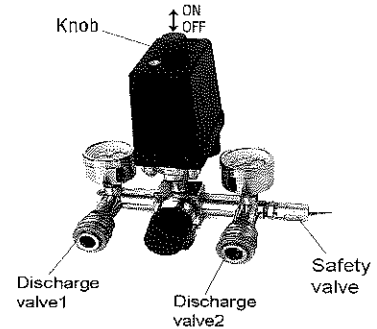

Fig.2
- (1) Check all bolts and nuts. Make sure all parts loosened must be tightened.
- (2) The place to set the compressor should be clean, dry and ventilated.
- (3) Keep the using voltage within $\pm 4\%$ of the rated.
- (4) Keep the oil level in the red circle of the oil leveler.
- (5) Recommend SAE30 or L-DAB100 over 10°C , and use SAE10 or L-DAB68 below 10°C of the compressor oil.
- (6) Open the outlet valve, set the knob of pressure switch in position on (Fig.2), let the compressor run 10 minutes with no load to ensure lubricating the moving parts before regular service.